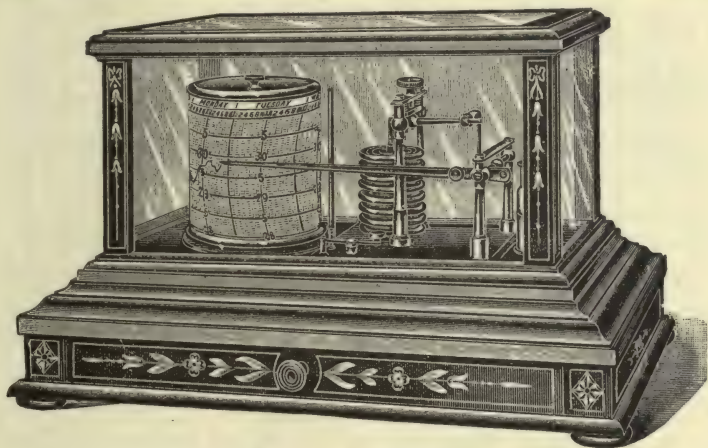

FIG. 253. — Barograph.
**Use of the barometer.** — Changes in air pressure are very closely connected with changes in the weather. The barometer does not directly foretell the weather, but a low or falling pressure, indicated by a fall of the mercury, usually precedes foul weather, while a rising pressure, indicated by a rise in the mercury, usually precedes fair weather. The barometer is not an infallible prophet, but it is of great assistance in predicting the general trend of the weather. Figure 253 shows a barograph or self-registering barometer which automatically records air pressure.